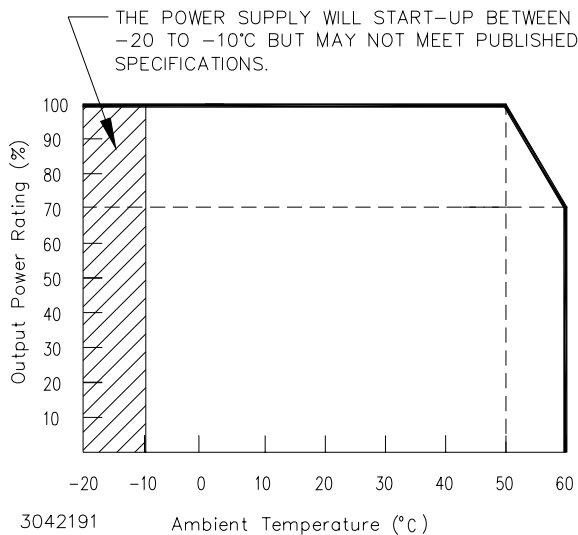
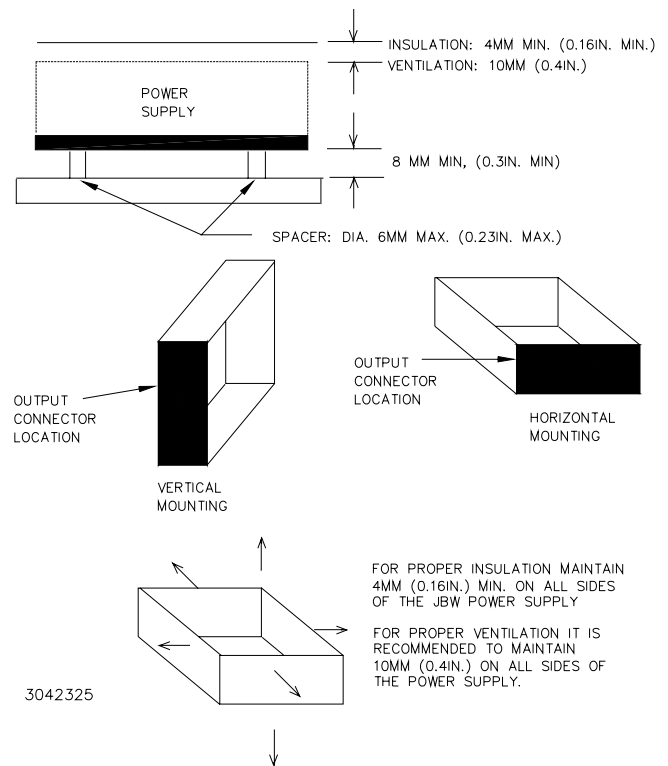

FIGURE 1. OUTPUT POWER VS. TEMPERATURE
FIGURE 2. VENTILATION, INSULATION AND MOUNTING DIRECTION
**OPERATING TEMPERATURE:** -10 to 60°C (start up -20 to -10°C). See the derating, Figure 1.
**ORIENTATION:** Vertical or horizontal (see Figure 2).
**MOUNTING POWER SUPPLY.** Refer to Figures 2 and 4. The unit may be mounted on one mounting surface. The air surrounding the power supply must not exceed the ambient values given in the graph in Figure 1.
**INSULATION.** Install unit 0.3 inches (8mm) away from base with the use of 0.24 inch (6mm) diameter spacers attached to the PC board. Keep at least 0.16 inches (4mm) spacing around and above the unit to comply with insulation and safety requirements. An insulator must be used if the spacing is less than 0.16 inches (4mm) (see Figure 2).